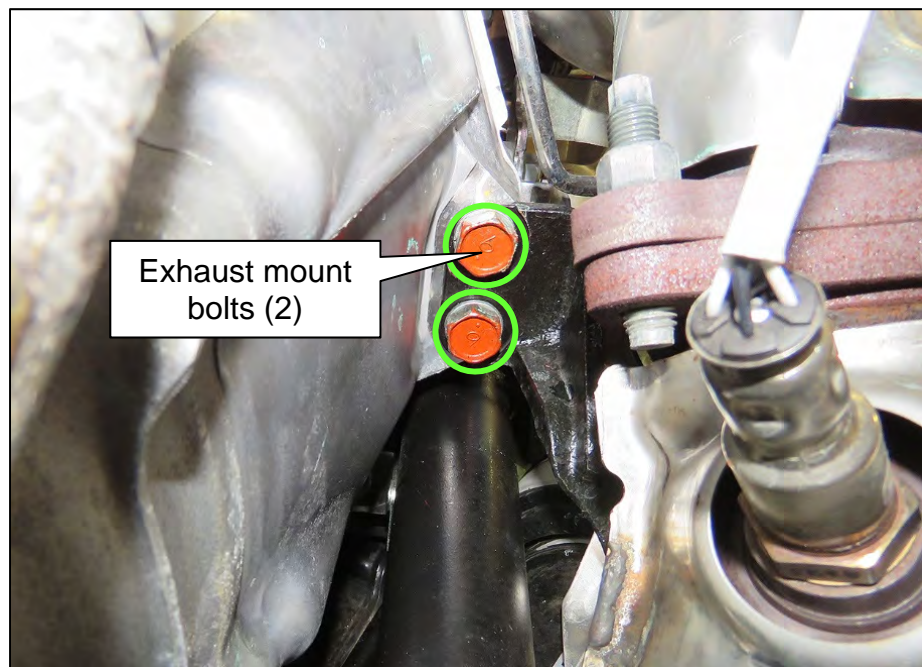

Figure 63
97. Reinstall the two (2) exhaust mount bolts shown in Figure 63 finger tight.